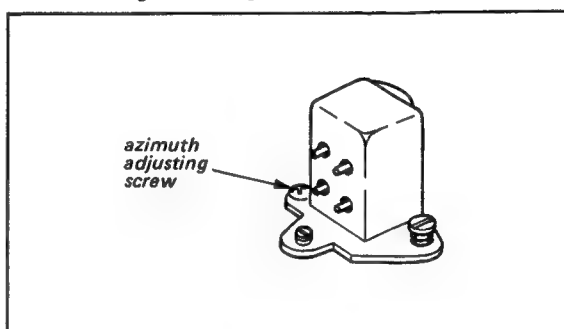

Fig. 6-2 Audio head azimuth adjustment
3. Adjust head azimuth for maximum VTVM reading. See Fig. 6-2.